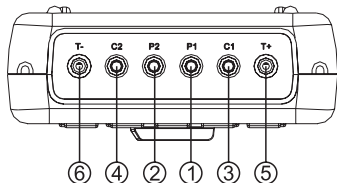

Figure 2
V. Input Terminals Description (Figure2)